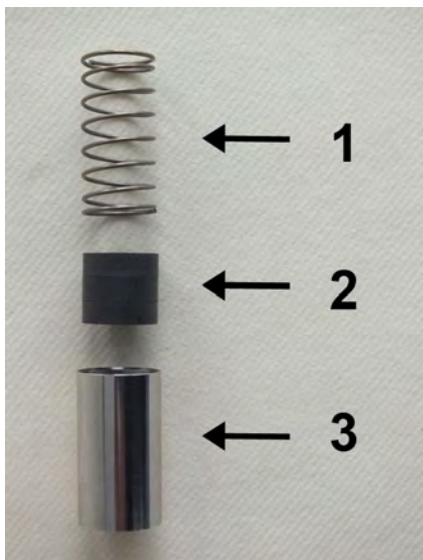

Fig. 48: Inner parts
- 6.** ➤ Insert spring (Fig. 48/1) with magnets (Fig. 48/2) into the float (Fig. 48/3), ensuring proper magnetic pole orientation (north pole toward device outlet).